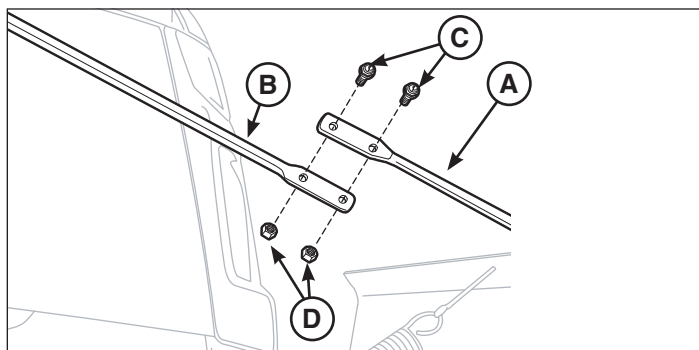

Figure 17
4. Attach the lower portion of the control arm (A, Figure 17) to the upper control arm (B) using the 1.00" cap screws (C) and lock nuts (D).